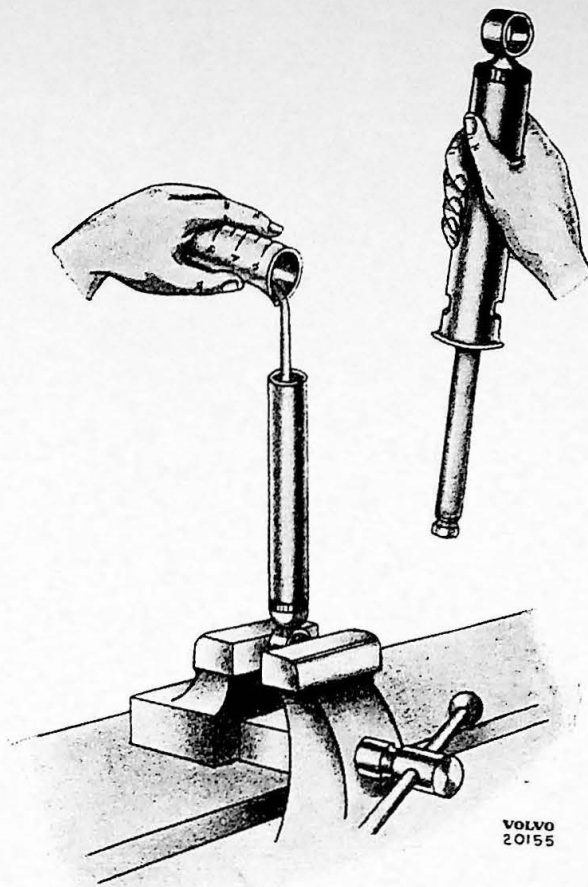

Fig. 11.
4. Place the cylinder (4) in the vice in an upright position. Fill it with the remaining quantity of fluid, Fig. 11, and assemble the shock absorber as instructed in point 5 under the